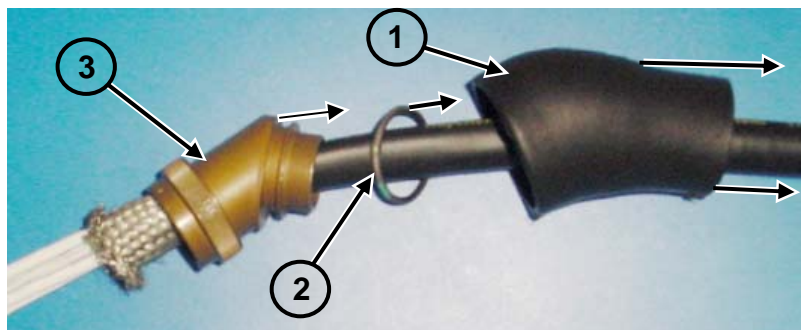

Figure 3. Installing the Molded Boot, Tinel-Lock Ring, and Backshell
4. Place the (strain relief) molded boot (1 in Figure 3) on to cable bundle with correct orientation, followed by Tinel-Lock ring (2 in Figure 3), followed by the backshell (3 in Figure 3) over the end of the cable bundle as shown in Figure 3.